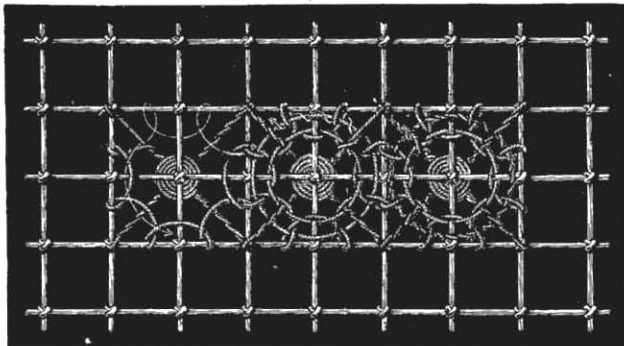

Fig. 35. Wheels framed with loop stitches.
**Wheels set with loop stitch** (fig. 35).